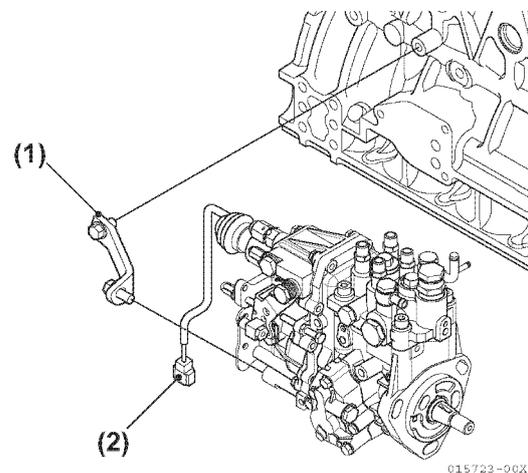

**Figure 6-73**
In this case, rotate the top of the fuel injection pump away from the cylinder block until the mark on the outside upper mounting boss (**Figure 6-73, (1)**) of the fuel injection pump aligns with the +0.5° mark on the timing sticker.